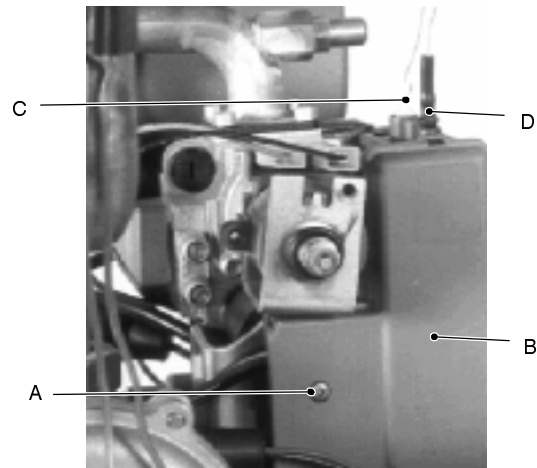

fig. 50
- 2 Unscrew screw *A* and remove the protection cover *B*; disconnect the flame detection cable *C* and the ignition cable *D* (fig. 50);